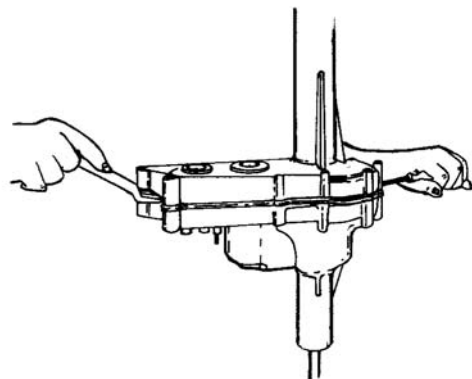

Figure 6-32. Prying Halves Apart
- Carefully pry halves apart in areas shown in Figure 6-32.